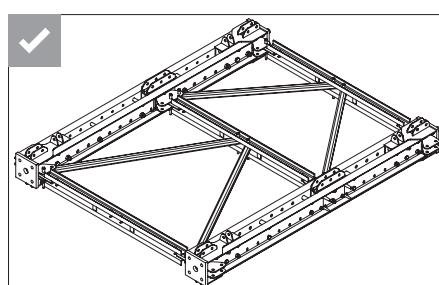

Fig. B3.02d
6. Repeat the procedure for all diagonal struts VST. (Fig. B3.02d)
Do not connect the horizontal support to the bracing connector VST, connect it to the cross connector VST instead. (Fig. B3.02d)